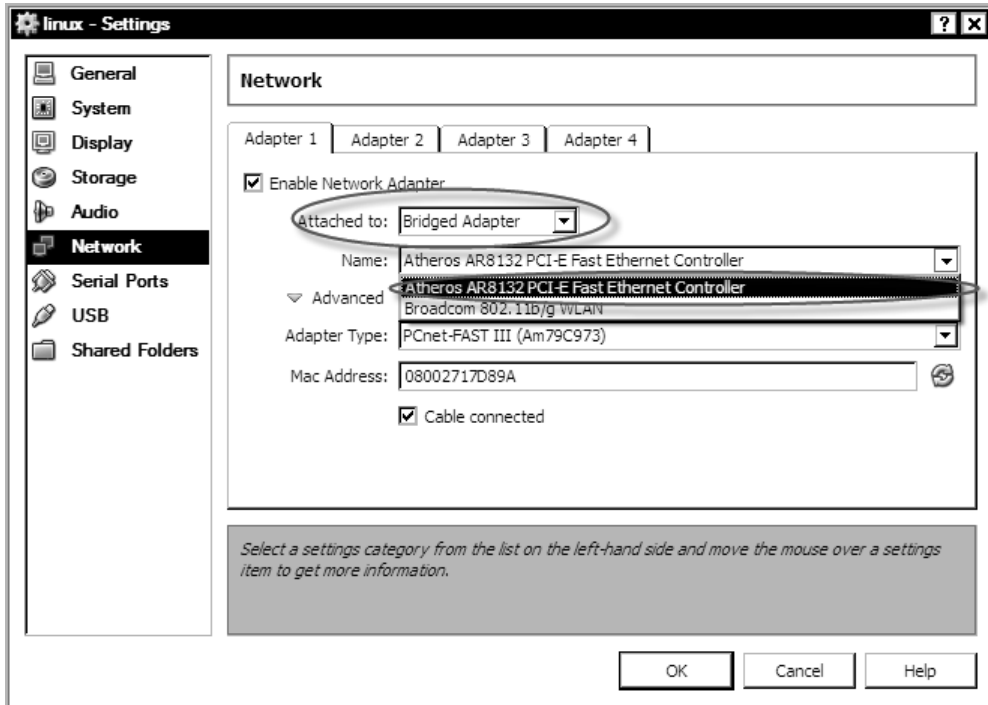

Figure 2-14. Change the network settings.
2. Change the networking so that the virtual machine shares the network adapters on the host machine. To do so, select Network at the left in the Settings panel, and change Attached to To Host Interface (see Figure 2-14). The bottom part of the dialog shows a list that lets you select which host interface should be used by the virtual machine. If the computer where VirtualBox is located has only one adapter, no action is necessary. Click OK to save the settings.